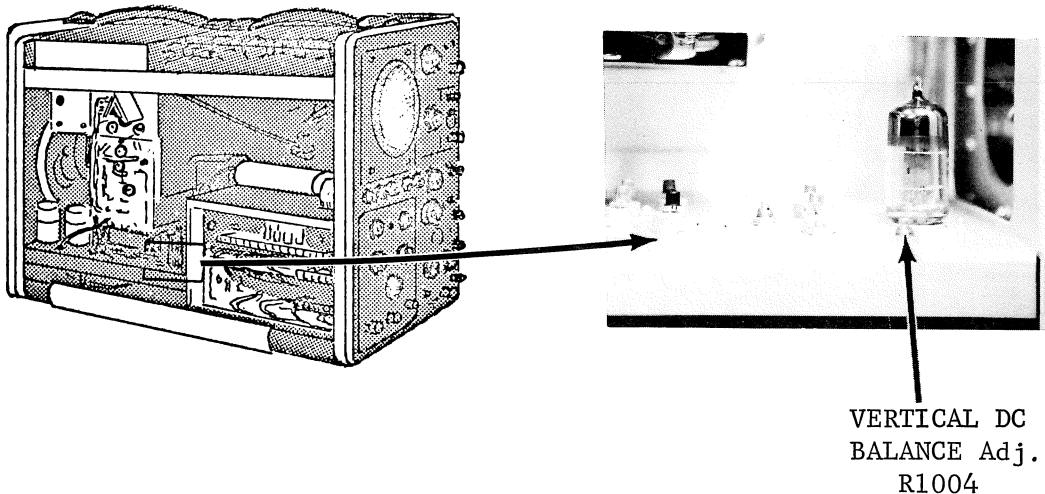

Figure 14
2. Adjust VERTICAL DC BALANCE adjustment (R1004 - see Fig. 14) to position the trace to the center of the graticule as viewed on the CRT.